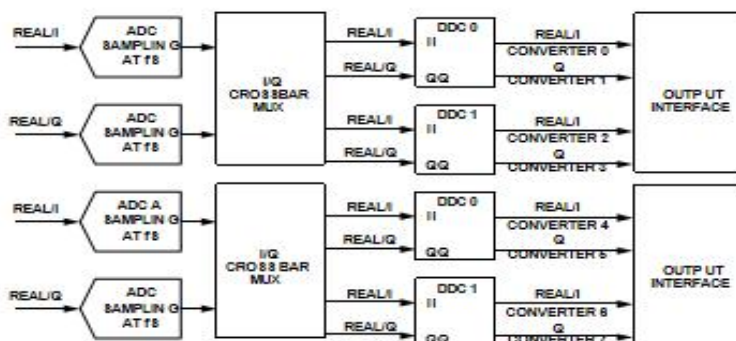

Figure 33 DDC and Virtual Converter Mapping
The JESD204B Tx block of the CW9694 supports up to four DDC blocks. Each DDC block outputs two samples (I/Q) of complex data components (real + imaginary), or one sample stream of real (I) data. The JESD204B interface can be configured to use up to eight virtual converters, depending on the DDC configuration. Figure 33 shows the virtual converters and their relationship to the DDC outputs when complex outputs are used. Table 22 shows the virtual converter mapping for each chip application mode when lane swapping is disabled.